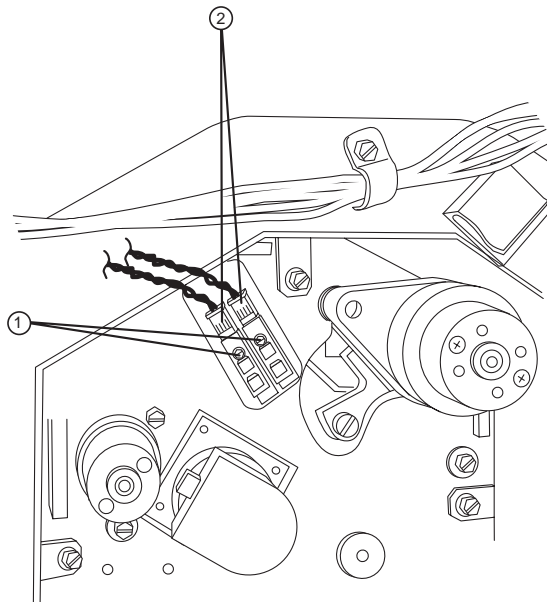

Figure 4-47 Supply cassette spindle A/B position sensors.
2. Remove the connector from the sensor. Refer to Figure 4-47.
3. Using a screwdriver, remove the hex screw securing the sensor (A or B) to the imagesetter frame and remove the sensor. Refer to Figure 4-47.